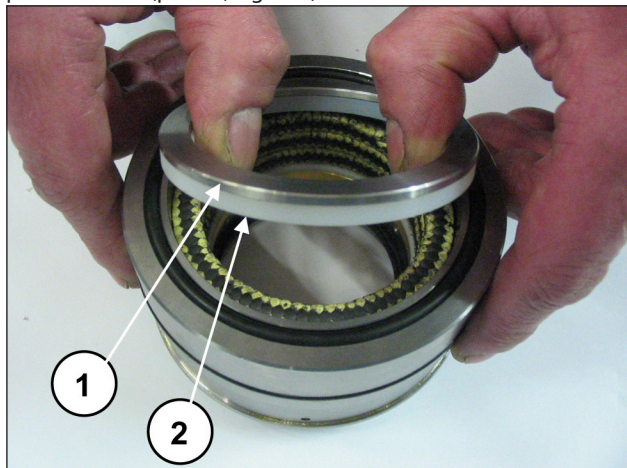
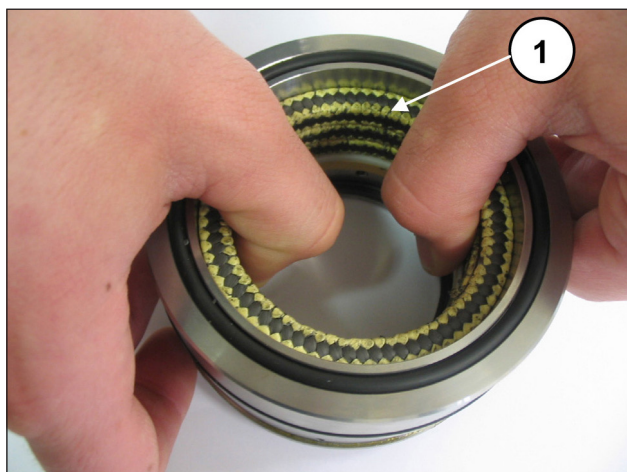

Fig. 193
Fig. 194
Separate the seal support from the liner, remove the spring ring and scraper ring (pos. ①②, Fig. 193) to access the pressure seals (pos. ①, Fig. 194).